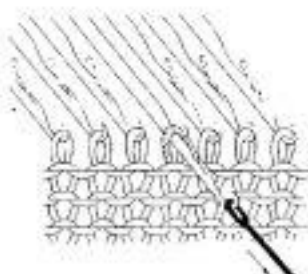

Fig. 39-2
- b) Draw the needle towards you with the Tool until the stitch passes behind the latch. (Fig. 39-2)